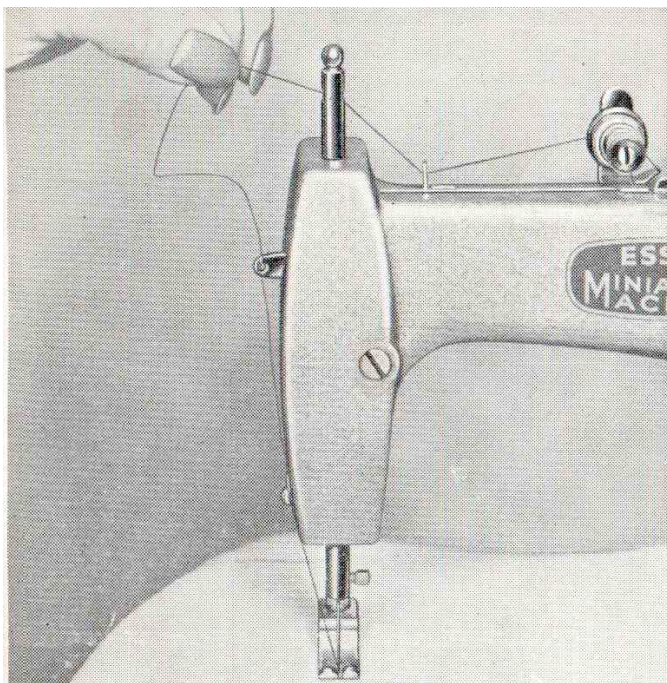

Figure 2.
2. Pull out thread about two inches to the left from the hole at the head of the needle rod, as shown in Fig. 2.